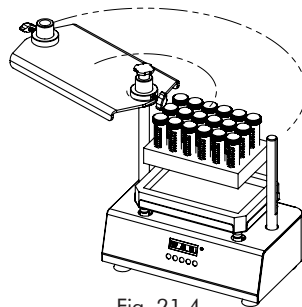
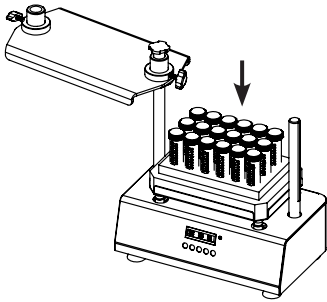

Fig. 21.4
Fig. 22.1
- Place the test tube on the test tube holder (fig. 21.4) then fix it on the foam holder as shown in the fig. 22.1.